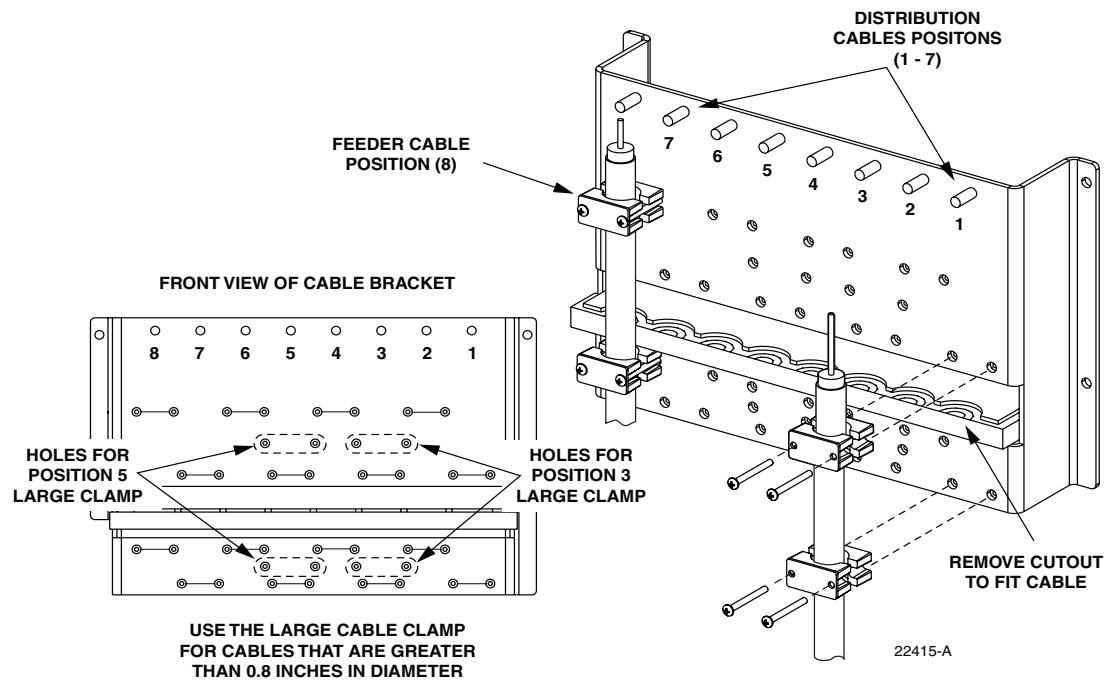

Figure 27. Secure Distribution Cable to Cable Bracket
5. Locate the cable clamping positions specified for securing the distribution cables to the cable bracket as shown in Figure 27.